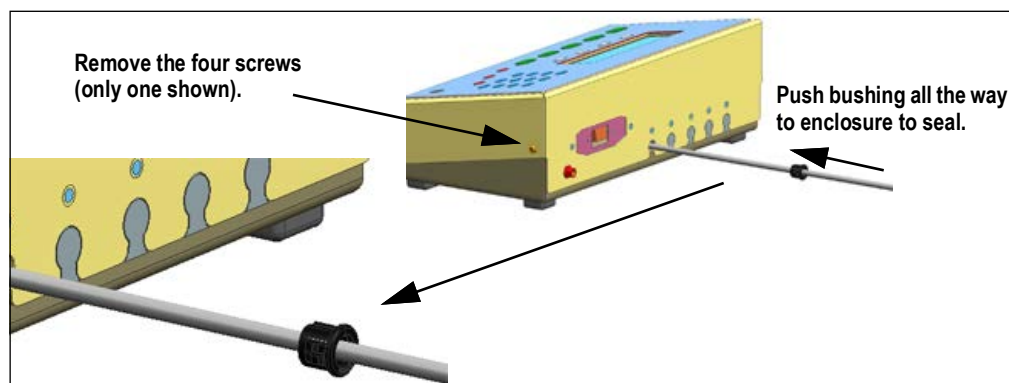

Figure 2-6. Use Plastic Bushings
1. Open the cover assembly by removing the four screws (only one shown in Figure 2-6).